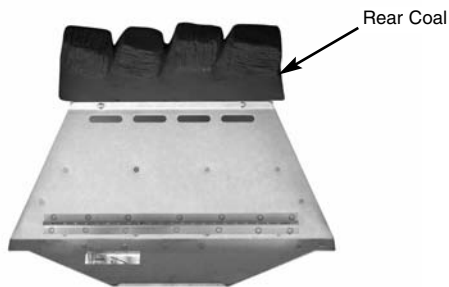

Fig. 45
1. Place the rear coal on the rear coal retainer ledge in a central position (Fig. 45).